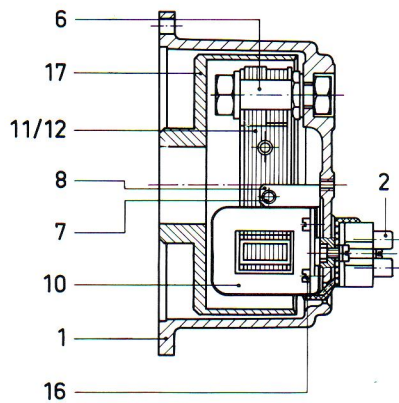
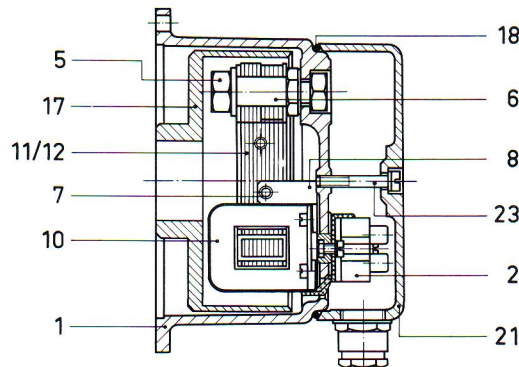
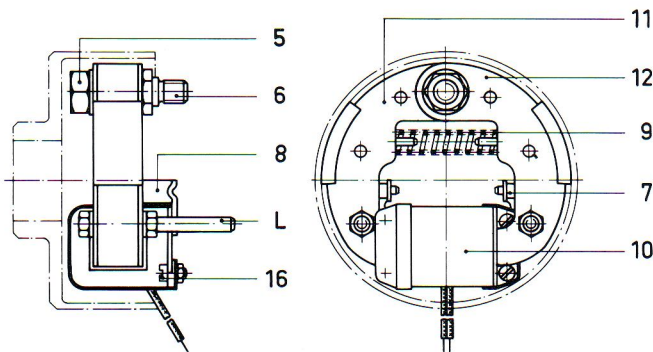

Fig. 1
Fig. 2
Fig. 3
The Brake Units complete in Housing are normally supplied with fitted Hand Release Bolts (L) whereas the Brake Element only (Fig. 3) can be supplied with or without, according to requirements.
To fit Brakes complete with Housing (as Figs. 1, 2 and 4), the following procedure should be adopted. Firstly fit and key the Brake Drum to the Motor or Machine Shaft; same must be suitably axially located in position by the use of a Shaft Shoulder, Grub Screw, Circlip or any other conventional method. It must similarly be noted that, when adapting this arrangement, when in position the rear face of the Brake Drum boss should line up with the flange mounting face of the Brake Housing - this ensures correct axial positioning. The Brake Housing has a female spigot location manufactured to tolerance H8. The mating male spigot on Motor or Machine should be manufactured to tolerance h8 or e8. When assembled, the relative concentricity of Brake Drum I/D to male locating spigot should be within ± 0.5 mm max. The Machine or Motor Shaft must rotate true within 0.05 mm. To assemble the Brake, close the Brake Shoes by compressing the Hand Release Bolts (L) together; this will allow the Shoe Assembly to slide into the Drum, then locate on the spigot and bolt the Unit into position through the three fixing holes provided in the Brake Housing flange. Effect connections to terminal block and test Unit for free running in release position prior to starting up.
To fit or replace a Brake Shoe Element (as Fig. 3) - firstly mount the Shoe Assembly by means of its Fulcrum Pin (Item 6); secondly, fit the Operating Coil (Item 10) by use of the four Screws and Nuts provided (Item 16) - these are located beneath the Rubber Coil Protection Gaiters. Prior to fully tightening the Assembly, correctly centralise the Brake Shoes in relation to the Motor or Machine Shaft and position the Buffer Bracket (Item 8); this serves to position the Brake Shoes symmetrically when the Brake is disengaged. (This feature is not self-cancelling). Failure to centralise the Assembly correctly can result in the Brake Linings being in constant rubbing contact with the Brake Drum in the dis-engaged position, thus resulting in drag, undue heat and wear. The Brake Drum (Item 17) can then be fitted and keyed to the Shaft, ensuring that same is suitably axially located. It is recommended that where no hand release facility is provided, the Brake be energised with the appropriate A. C. current, this will facilitate easy loading of the Brake Drum. Under no circumstances should the Brake Drum be hammered into position over an expanded Brake Assembly. When assembling, we recommend that all fixing screws be locked by a suitable locking fluid, e.g. "LOCTITE".
- For Brake Unit complete in Housing as per (Fig. 1). To release manually, compress Lifting Bolts (L).
- For Brake Unit, complete in Housing as per (Fig. 2). To release manually, remove Rear Cover (Item 21) and compress Lifting Bolts (L).
This range of A. C. Shoe Brakes are available in four basic constructional forms to Fig. 1. Brake Unit, complete with Housing with open terminal block connections. Fig. 2. Brake Unit, complete with Housing with terminal block connections and fitted End Cover. Fig. 3. Brake Element only with Flying Lead Coil Connections. This design is for direct mounting onto a Motor End Shield or Adaptor Plate for through shaft assemblies, i. e. Fan Cooled